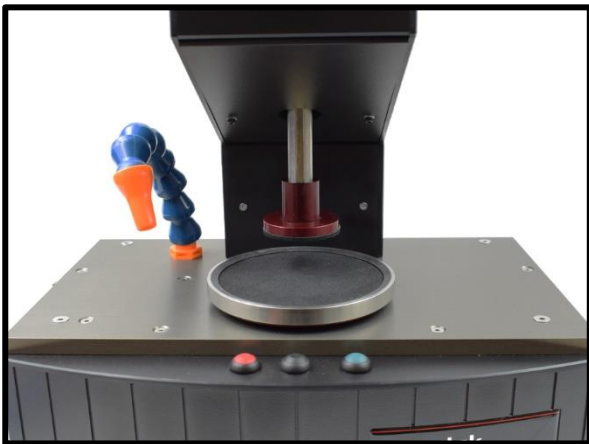

Fig 4 – Standard head attached
- Remove any weights and lift the weight platform and turn the handle so that the head is raised (fig 4).